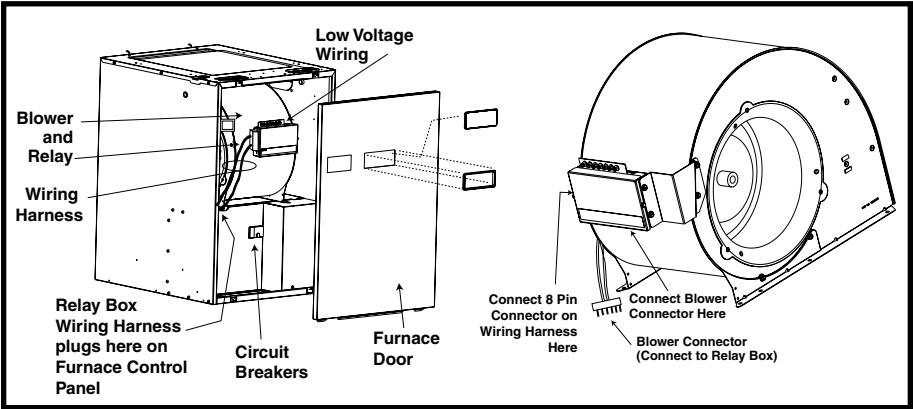

Figure 2. E2E(-) Series Electric Furnace, manufactured 1999 or later
- (E1 & E2 furnace models manufactured prior to 1999 only): Attach the appropriate brand label to the sheet metal cover so that it may be seen through the door control frame (see Figure 2) in the furnace door when it is replaced.